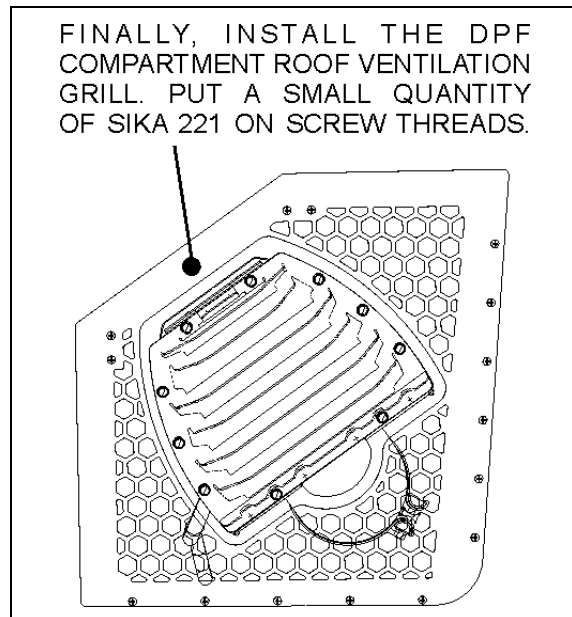

FIGURE 12: DIFFUSER POSITION ADJUSTMENT 04015_3
5. Reinstall the DPF compartment roof ventilation grill and deflector. Put a small quantity of Sika 221 on screws (fig.12).